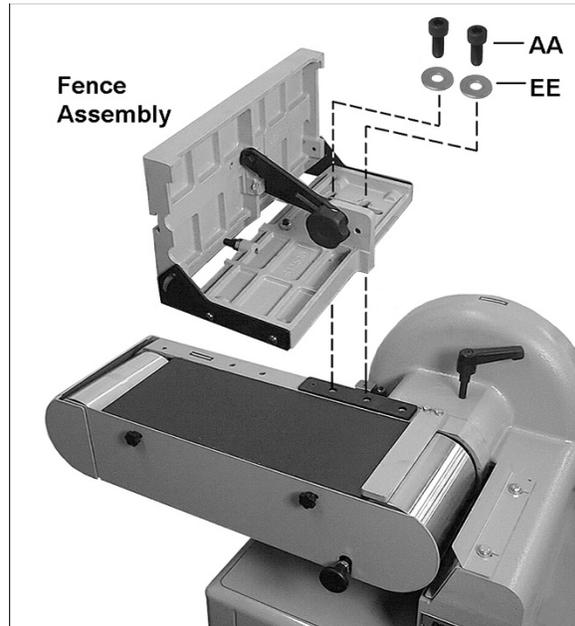

Figure 9
Refer to Figure 9:
2. Insert the two M10x25 socket head cap screws (AA), with two M10 flat washers (EE), through the fence base and into the threaded holes on the pivot plate, as shown in Figure 9.